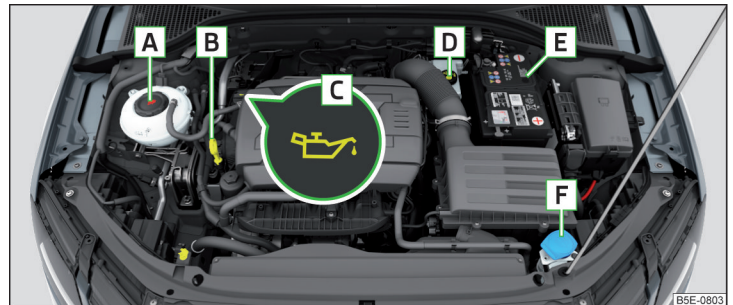

Fig. 316 Arrangement example in the engine compartment
- ▶ Unscrew the cap of the engine oil filler opening **C** » Fig. 316 on page 272. ▶